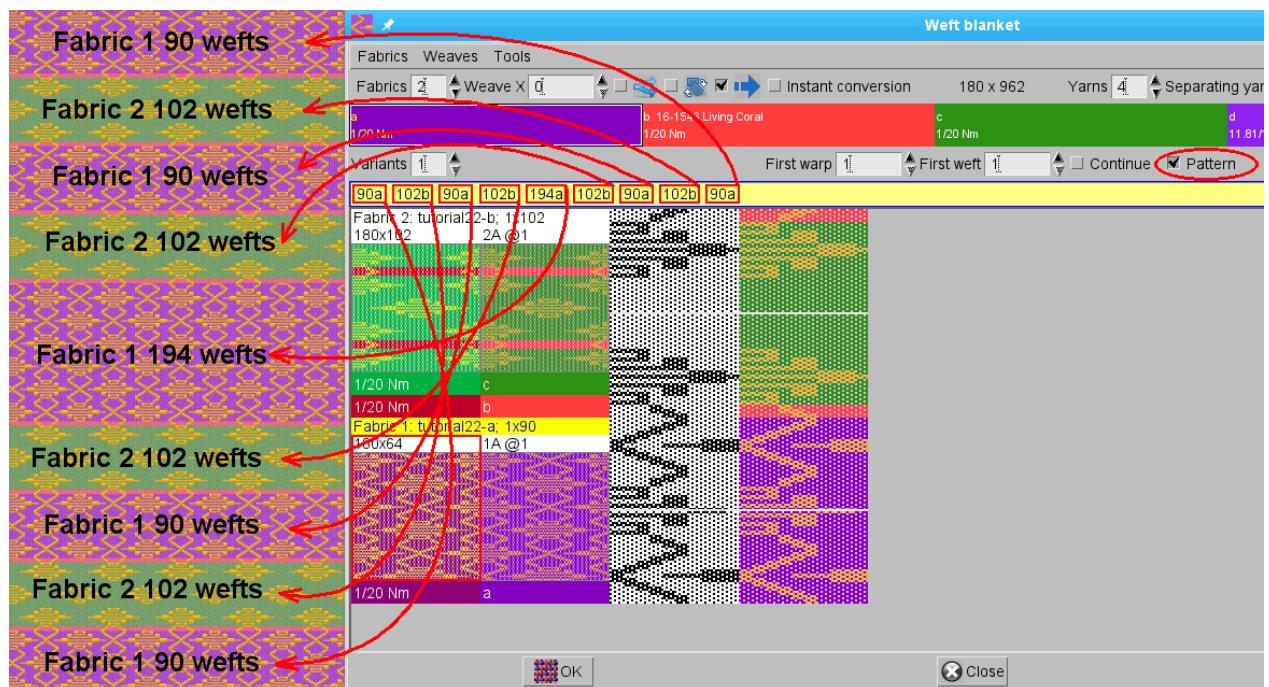

Figure 313: The pattern option in the weft blanket editor: from two input fabrics we have created new design.
- The **Pattern** option lets you write the weft blanket as a weft pattern, of two or more fabrics. It is useful, when you have the same fabric, repeated at different places in the weft blanket, and you would need to load it into the weft blanket editor as many times as fabric occurs in the weft blanket. Figure 313 shows a weft blanket, which is made of two fabrics. In the “normal” editing mode, you would need to load two fabrics in the correct order, the violet fabric 5 times, and the green fabric 4 times, of course in the correct order. But if you switch to the **Pattern** mode, you need to load each fabric only once. In the **Pattern** field you have to write a weft blanket as a pattern: **90a 102b 90a 102b 194a 102b 90a 102b 90a**, where a means first fabric, and b means second fabric. Numbers beside letters mean the number of wefts from each fabric. If you need to change the height of a particular fabric band, just change the number of wefts, click **OK**, and you have a new design.